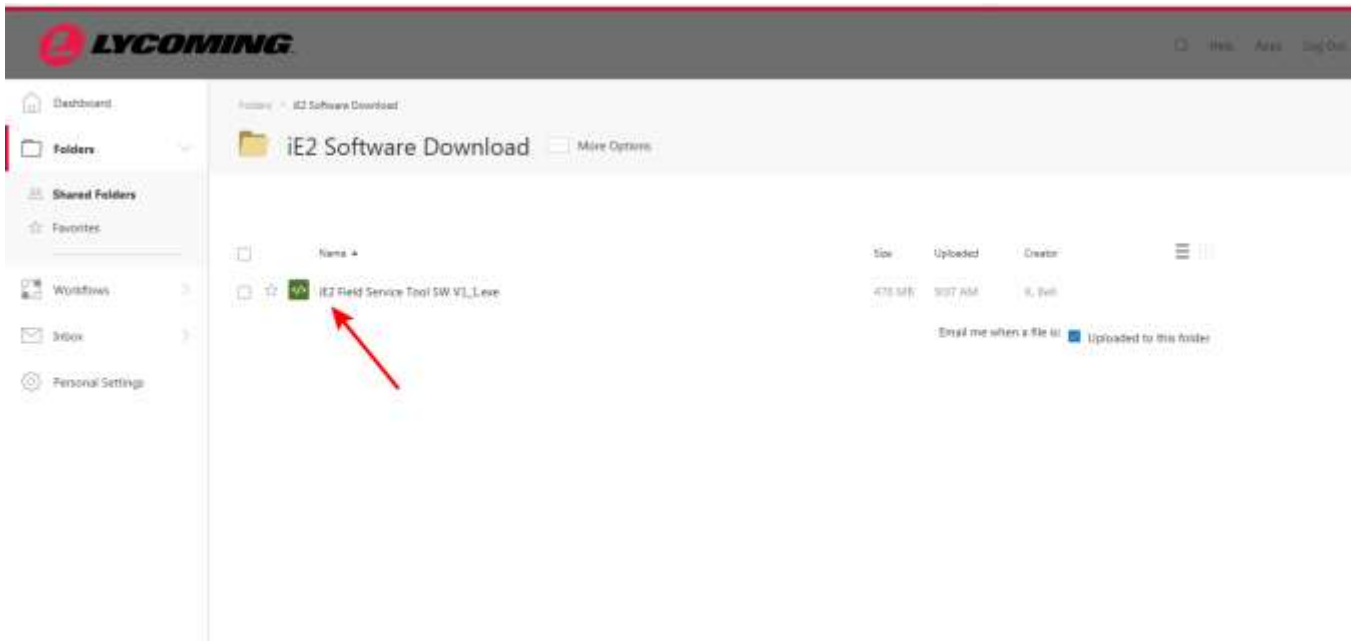

Figure C-10
8. You will be transferred to the **iE2 Software Download** page (Figure C-10). Double-click on the **iE2 Software** icon.